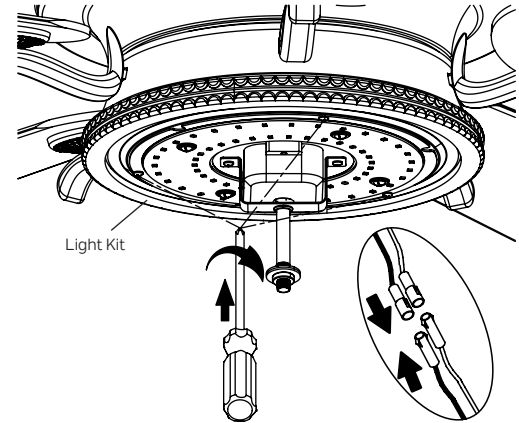

Fig. 24
**Step 1.** Hold the LED light kit to light plate, then connect the 2 single pin connectors from the light kit to the 2 single pin connectors from the motor assembly. Connect the black wire to the black wire, and white wire to the white wire. Attach the light kit to the light plate and securely tighten with three (3) screws from the screw pack (Fig. 24)